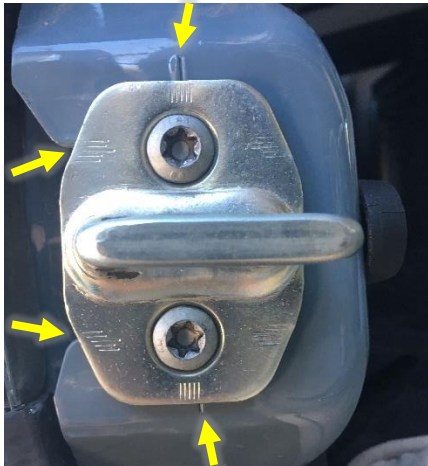

Figure 1: Factory Latch Alignment
3. Take a picture of the center, inside latch for later re-alignment (see Figure 1).